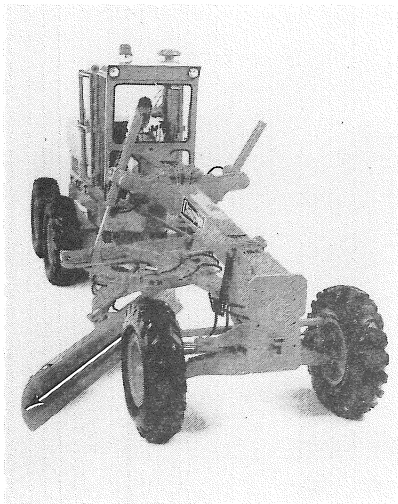

Figure 1
2. Operate the side shift and slide shift cylinders, and extend the moldboard to the extreme right as shown in Fig. 1.